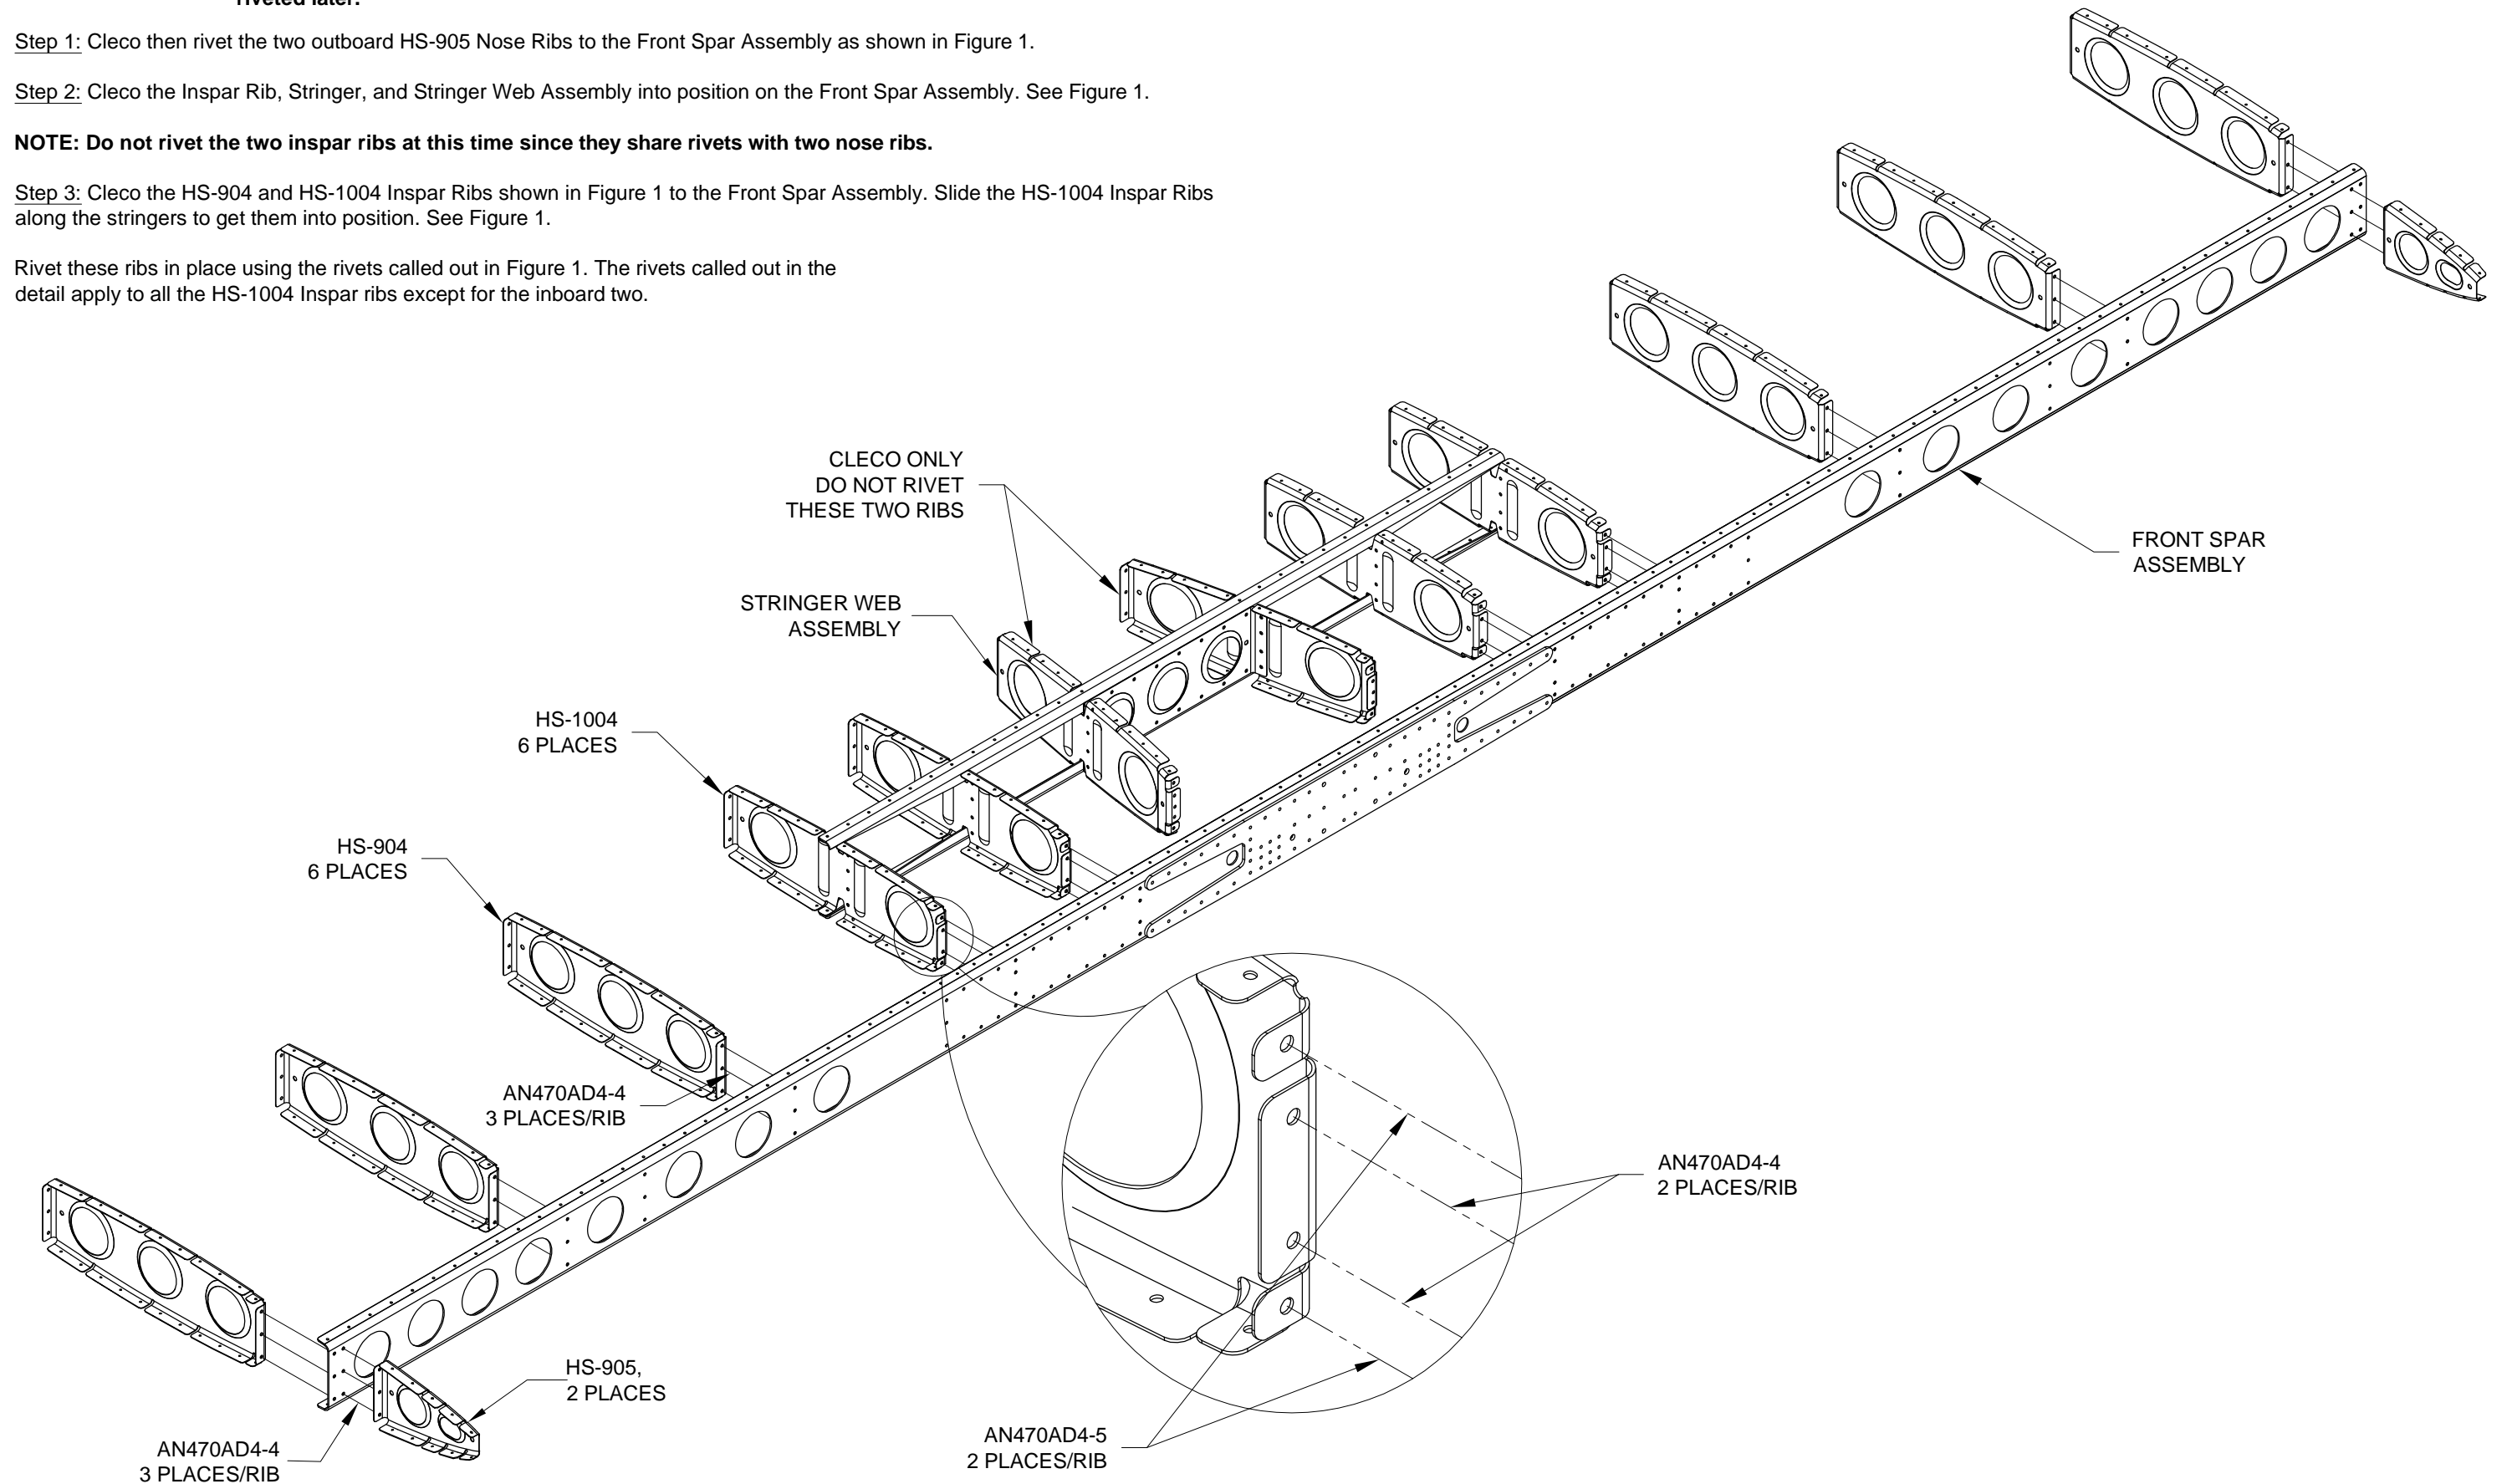

FIGURE 1: RIVETING THE INSPAR RIBS
Rivet these ribs in place using the rivets called out in Figure 1. The rivets called out in the detail apply to all the HS-1004 Inspar ribs except for the inboard two.
Step 1: Set up the four cradles to support the HS-00901-1 Skins as shown in Figure 1. Clamp the cradles to the work bench.
Step 2: Put both HS-00901-1 Skins in the cradles. The angled end of the skins are facing inboard as shown in Figure 1. Adjust the position of the cradles if necessary.